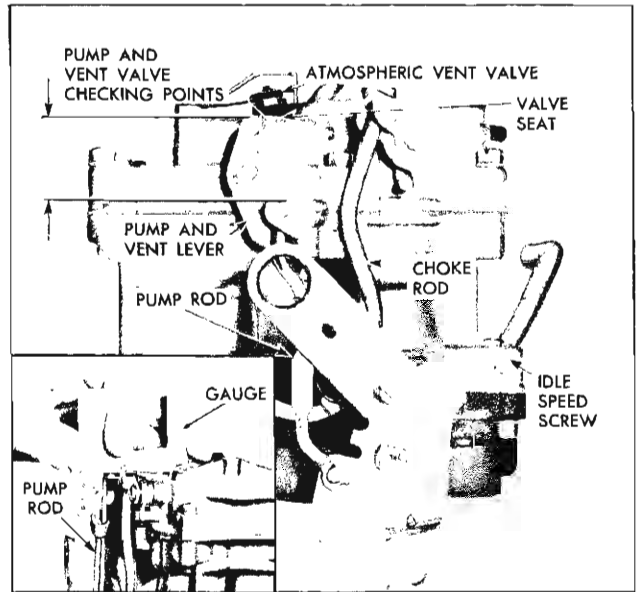

Fig. 22—Pump Rod Adjustment
PUMP ROD ADJUSTMENT (Fig. 22)
2. Holding throttle valves closed, check the distance from the top of the pump housing on the air horn to top of pump rod with the float gauge as shown in Figure 22. This distance should be $5\frac{7}{64}$ ".